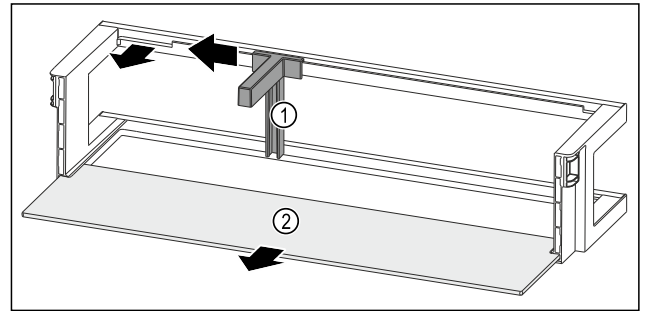

Fig. 134 Door racks with bottle holder and shelf
- ▶ Push the bottle holder Fig. 134 (1) to the side up to the recess.
- ▶ Remove the bottle holder Fig. 134 (1).
- ▶ Remove the shelf Fig. 134 (2).